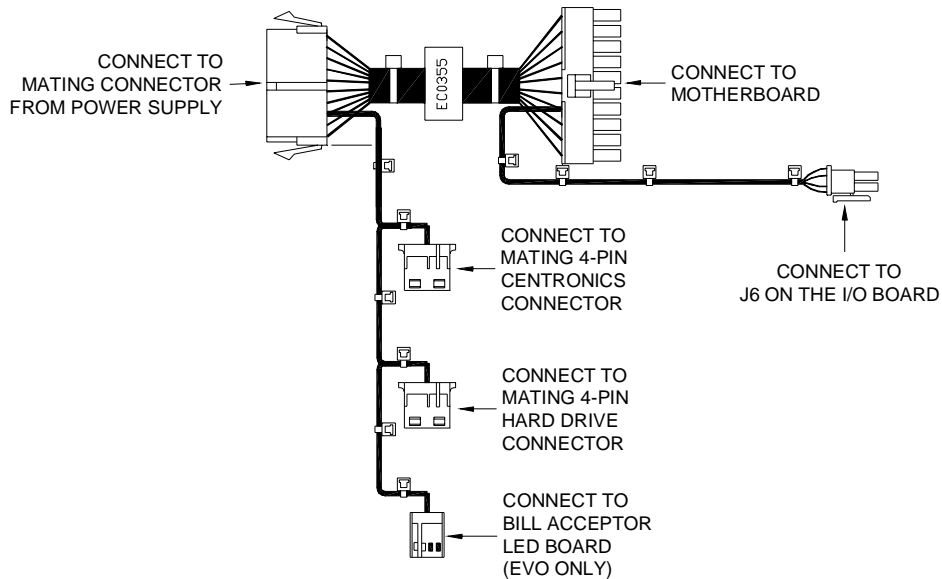

FIGURE 7 - DC JUMPER CABLE (EC0355-01) WITH CONNECTIONS
3. Attach the 20-pin connector on the provided DC jumper cable (EC0355) to the 20-pin mating connector coming from the power supply (see Figure 7).
Continue connecting the DC jumper cable as shown in Figure 7. For more detail, follow the steps below: